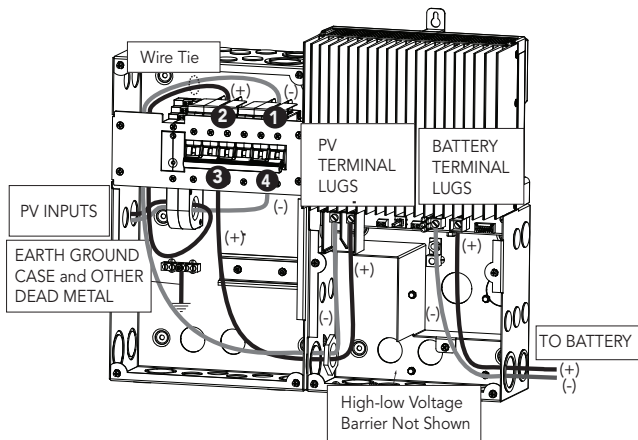

Figure 7. Completing Wiring for Standard Box
**NOTE:** Use included wire tie to secure wires above breaker assembly as shown in Figures 7 and 8.
**REMARQUE:** Utilisation fourni attache de fil aux fils sûr ci-dessus assemblée de disjoncteur tel qu'illustré aux Figures 7 et 8.
**Step 7.** Run (+) and (-) controller<->battery wires into the controller through right upper level knock-out above the metal high-low voltage barrier. If using a Standard Box (Figure 7), connect (+) and (-) controller <->battery wires directly to controller's (+) and (-) battery terminal lugs. If using a DB model controller, see note in Step 8.